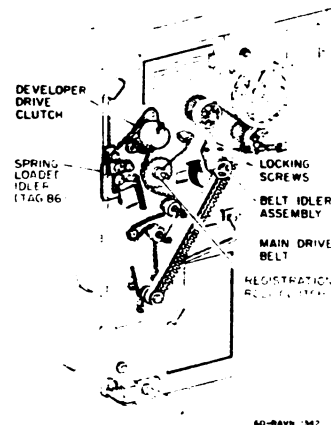

Figure 1. Removal of Main Drive Belt
- a. Loosen locking screws on belt idler (Figure 1).